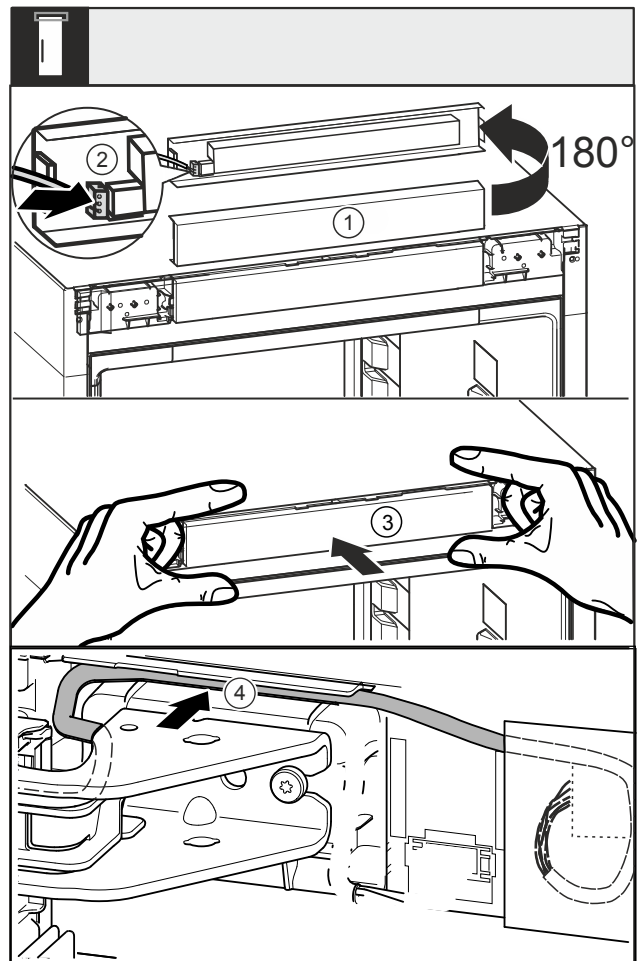

Fig. 47
- Turn the trim Fig. 47 (1) up by 180°.
- Engage the plug Fig. 47 (2) on the control panel trim.
- Re-engage the trim Fig. 47 (3) on the appliance.
- Lay the cable carefully in the guide Fig. 47 (4) above the top swap bearing block.